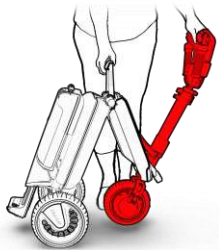

Figure 8
6. Tilt your ATTO toward the rod until the front wheel touches the ground (see Figure 8).